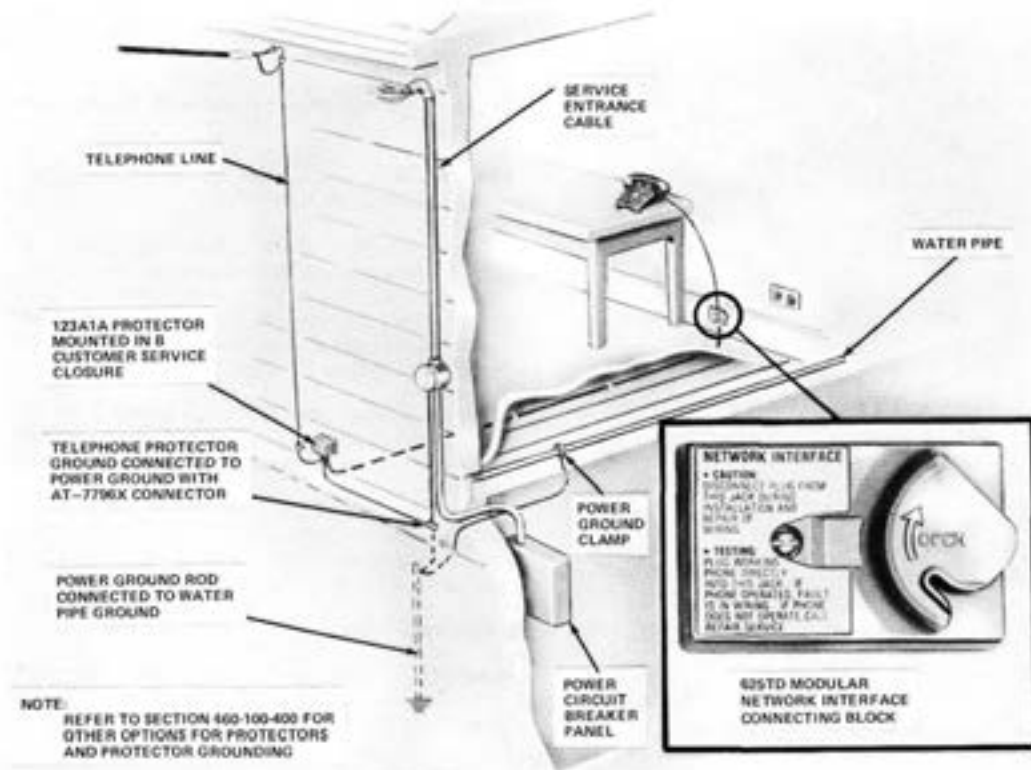

Fig. 4—Typical Wiring Routes
3.06 Various points which should be considered when selecting routes for wire and cable are shown in Fig. 4 and Table A.